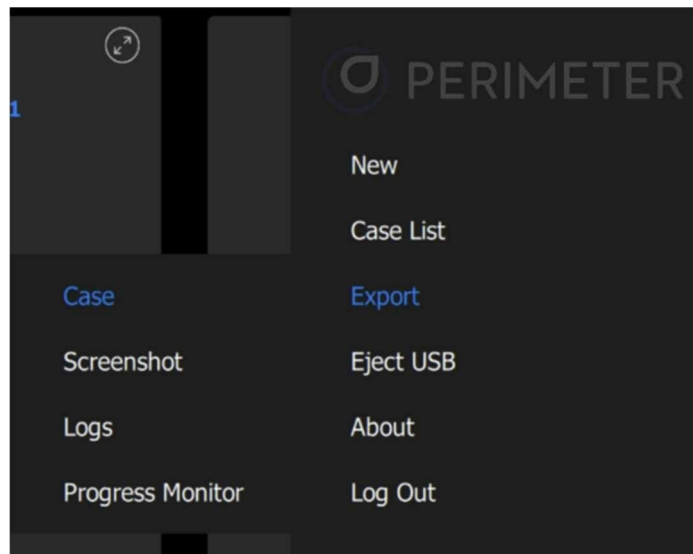

Figure 11: Export Screen
7. Export Screen (see Figure 11)
The Claire OCT System has 4 export options as shown in Figure 11: